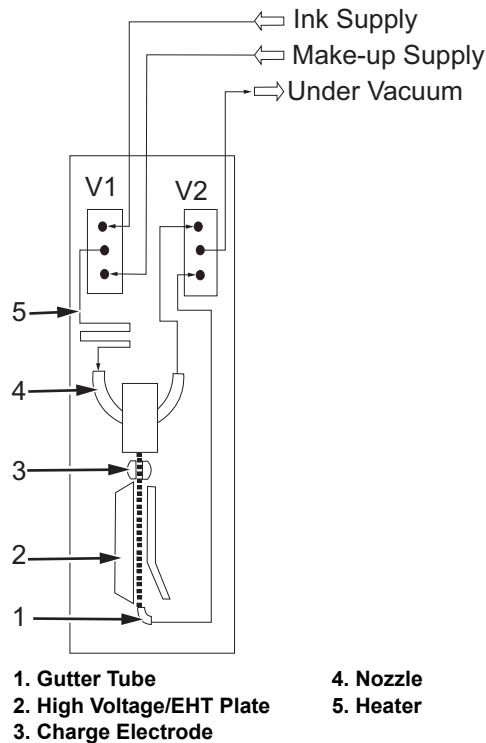

Figure 3-39: Printhead Operation
- 6 The ink drops enter the charge electrode (item 9) where they are charged at different voltage levels based on the character to be generated.
- 7 The charged ink drops then pass through the EHT/ High Voltage Field (item 2, Figure 3-39) and over the phase detectors.